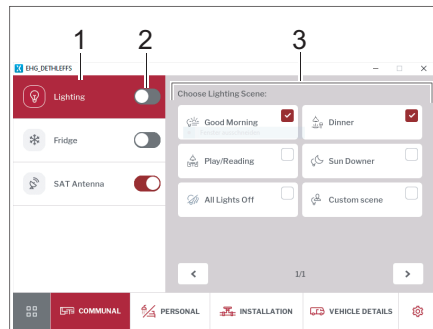

Fig. 260 Lighting
- Use the switch to turn the lighting (Fig. 260,2) on or off.
- Click on the *Lighting* (Fig. 260,1) button. Select a lighting mode in the control panel (Fig. 260,3).